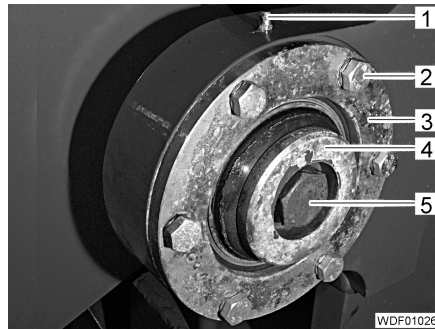

Fig. 347 Lower bearing attachment
- Coat the thread of the screw (Fig. 347,5) with locking agent.
- Screw in the liner (Fig. 347,4) with the disk.
- Screw in and tighten the screw (Fig. 347,5).
- Screw in the grease nipple (Fig. 347,1).